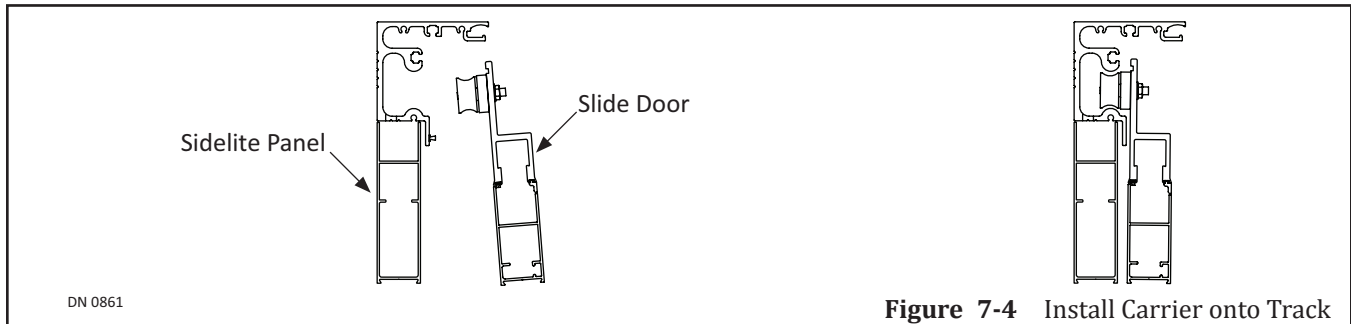

Figure 7-4 Install Carrier onto Track
5. Slightly tilt the Slide door to make it easier for the (4) Rollers to 'catch' onto the track. Please see Figure 7-4.